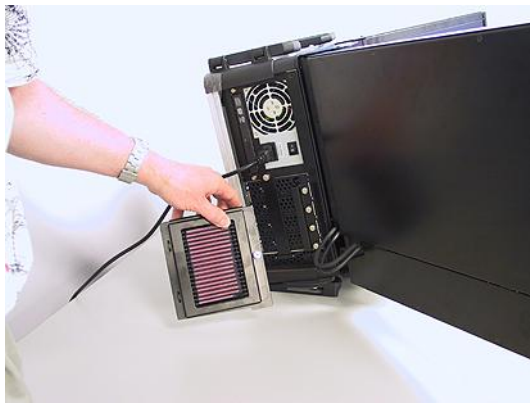
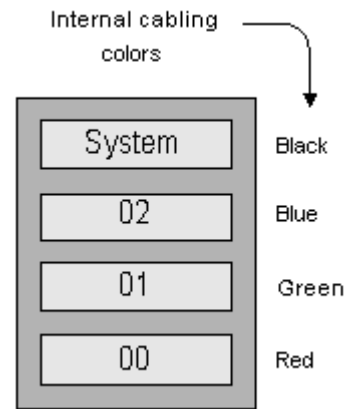

Figure 3-7
Figure 3-8
Note that these discussions reflect system configurations with a separate system drive as illustrated in Figures 3-7 and 3-8). Configurations that have the system partition established on the RAID array itself (leaving a hot-spare drive) are discussed later in this chapter.
Your MaxPac system can contain up to four SATA hot-swappable hard disk drives presented in a 4-drive disk caddy. This caddy is located on the lower left-hand side of the main chassis under the "Baghdad Filter" assembly as shown in Figure 3-7 (the numbering of the disks is as shown in Figure 3-8). In the case of a typical RAID 5 system, the upper disk is the system disk, while the lower three disks are used to implement the RAID data array.
- 2) Power the system back up again. The BIOS detects the fact that there is a problem with the RAID array and displays an appropriate message (Figure 3-37). Press the <Pause Break> key to freeze the display; from this (and Figure 3-8) you will be able to determine which drive has failed.